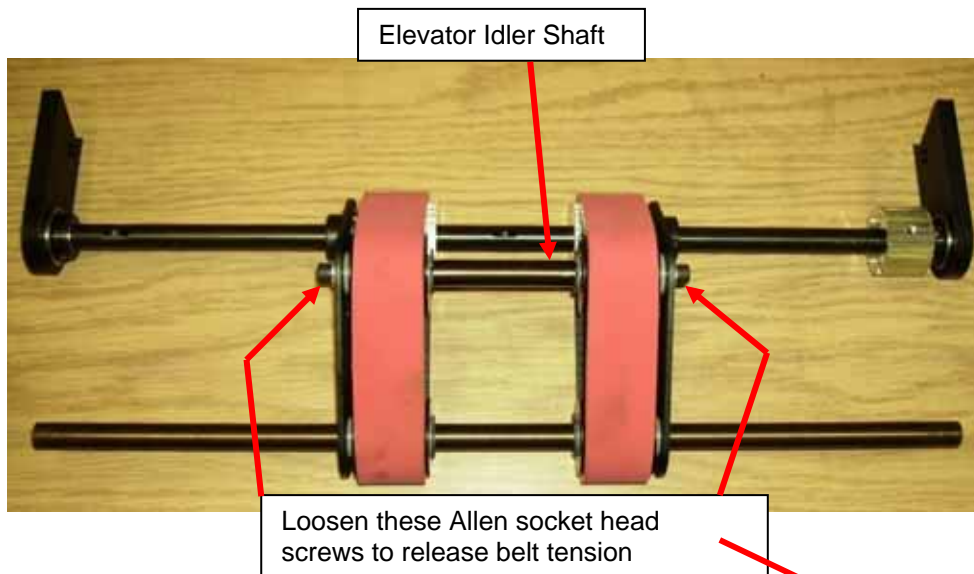

Figure IV-11
6. Loosen Allen socket head screws from both ends of elevator idler shaft and move shaft ends in slots to release belt tension. See figure IV-11.